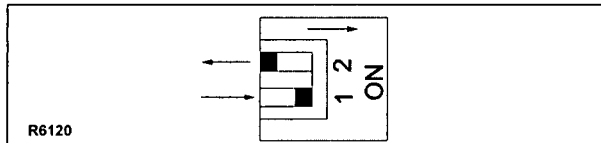

Figure 4. Dip Switch Settings
6.5.1. Dip Switch Setting (Figure 4)